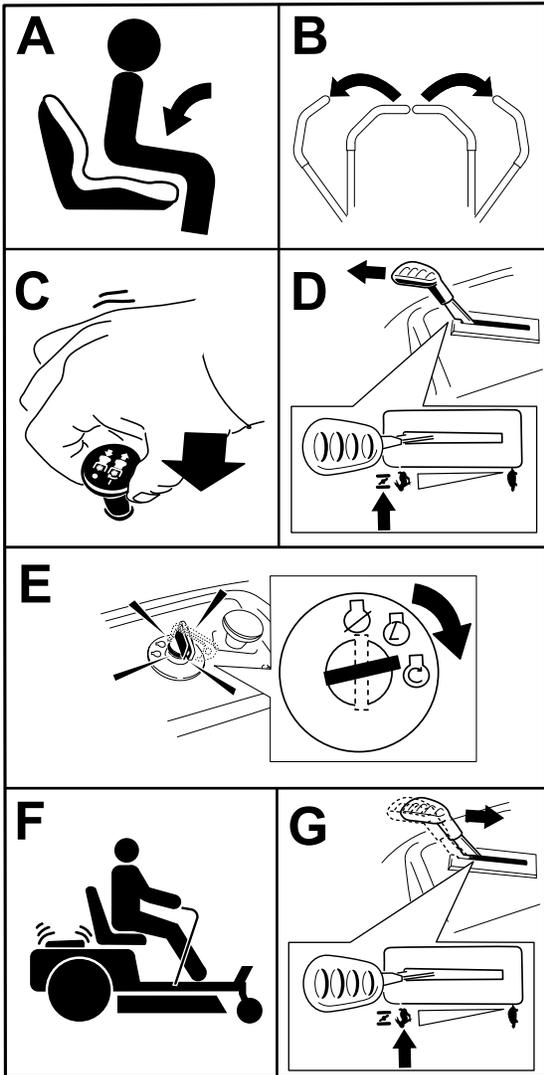

Figure 18
Note: It may be necessary to hold the lever against the stop, in the choke position, while trying to start the engine (Figure 18).
1. Disengage the blades by moving the blade-control switch to the OFF position (Figure 18).